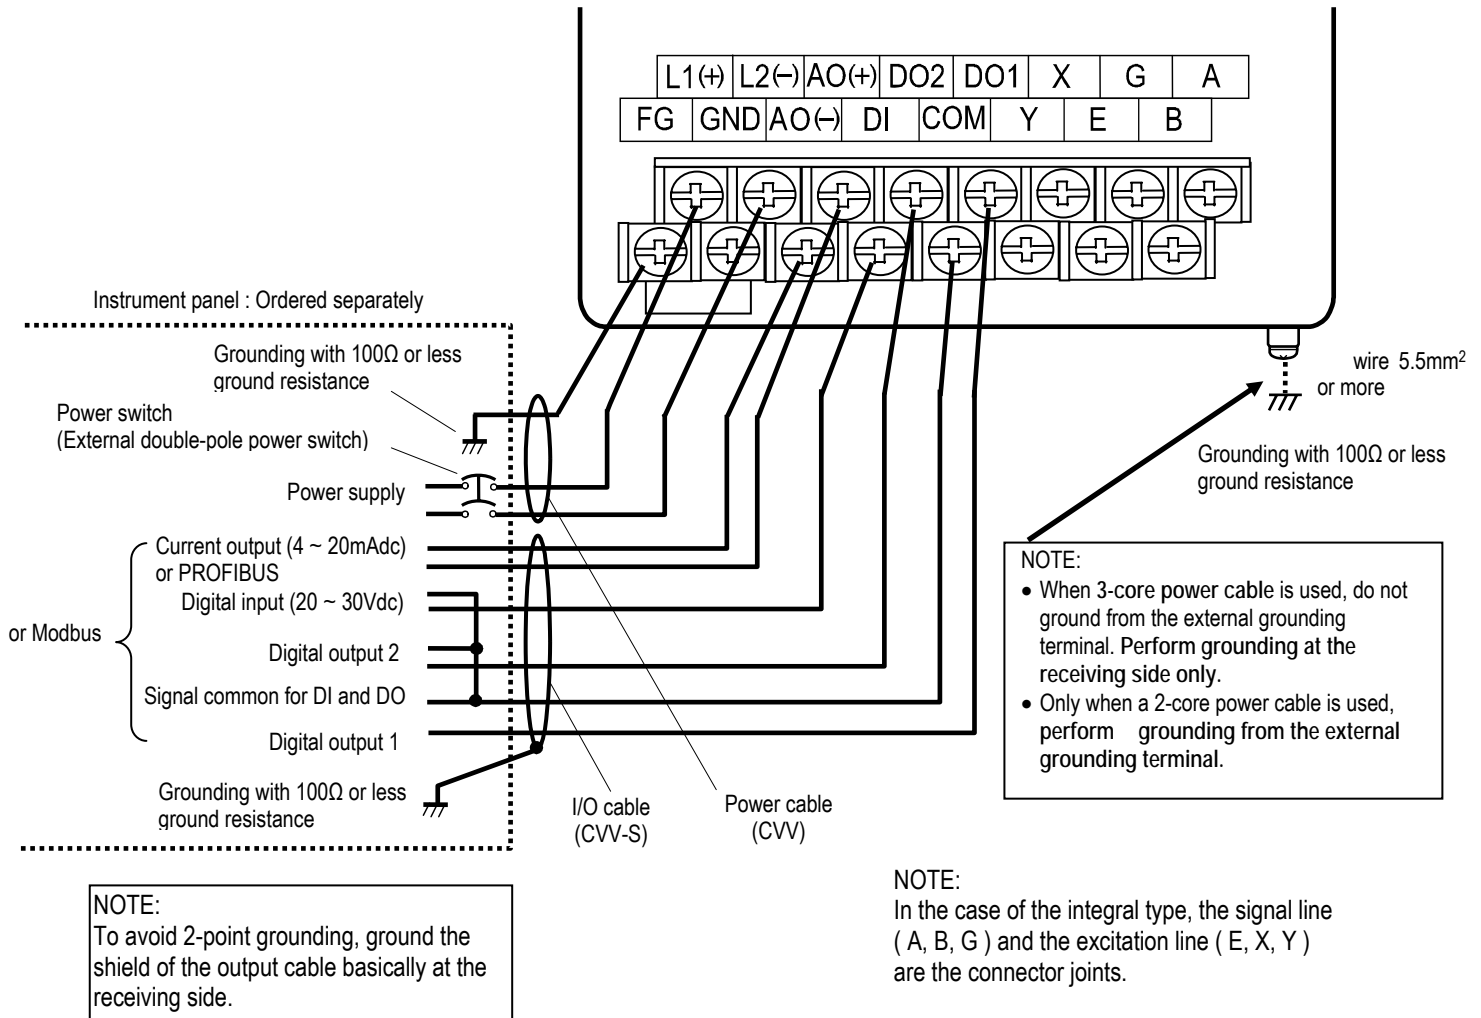

Figure 5.1 External Wiring Schematic Diagram
The terminal board connections of an integral type converter LF620 are shown in Figure 5.1. Proceed with wiring as described in Section 5.4, “Wiring Procedure.”
* Use a heavy copper braid or wire (cross-sectional area **5.5 mm² minimum**) to ground the terminal and make it **as short as possible** as shown in Figure 5.1 for **grounding**. Also, **Avoid a common ground** where earth current may flow. (An **independent ground** is preferable.)
The terminal board connections of separate type converter LF622 are shown in Figure 5.1. Proceed with wiring as described in Section 5.4, "Wiring Procedure."